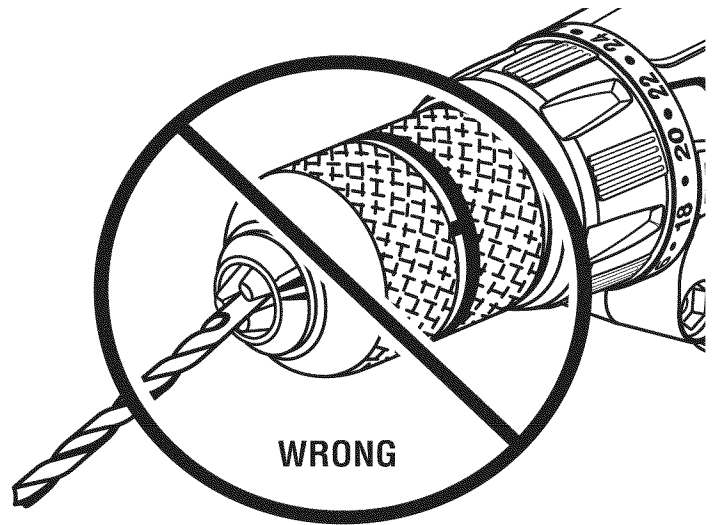

Fig. 12
**WARNING:** Make sure to insert the drill bit straight into the chuck jaws. Do not insert the drill bit into the chuck jaws at an angle then tighten, as shown in figure 12. This could cause the drill bit to be thrown from the drill, resulting in possible serious personal injury or damage to the chuck.